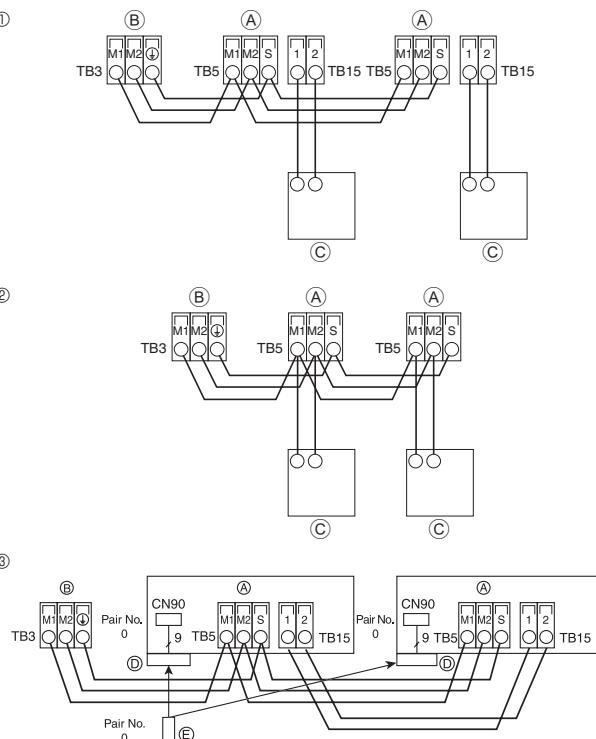

Fig. 6-3
6.4. Connecting remote controller, indoor and outdoor transmission cables (Fig. 6-3)
- ① Connect indoor unit TB5 and outdoor unit TB3. (Non-polarized 2-wire) The "S" on indoor unit TB5 is a shielding wire connection. For specifications about the connecting cables, refer to the outdoor unit installation manual.
- ② Install a remote controller following the manual supplied with the remote controller.
- ③ Connect the remote controller's transmission cable within 10 m, 33 ft using a 0.75 mm² (AWG22) core cable. If the distance is more than 10 m, 33 ft, use a 1.25 mm² (AWG16) junction cable.
- ④ MA Remote controller
- ⑤ Connect the "1" and "2" on indoor unit TB15 to a MA remote controller. (Non-polarized 2-wire)
- ⑥ DC 9 to 13 V between 1 and 2 (MA remote controller)
- ⑦ M-NET Remote controller
- ⑧ Connect the "M1" and "M2" on indoor unit TB5 to a M-NET remote controller. (Nonpolarized 2-wire)
- ⑨ DC 24 to 30 V between M1 and M2 (M-NET remote controller)
- ⑩ Wireless remote controller(When installing wireless signal receiver)